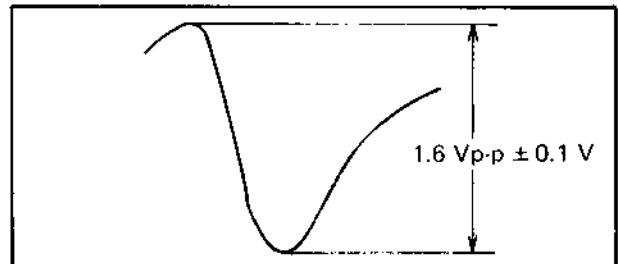

Fig. 5-41
6. Adjust the IF AGC bias voltage so that the waveform of the final stage has a voltage of 1.6 V_{p-p} on the oscilloscope as shown in Fig. 5-41.
- Adjust the IF AGC bias voltage so that the waveform has a voltage of 1.6 Vp-p on the oscilloscope as shown in Fig. 5-41.